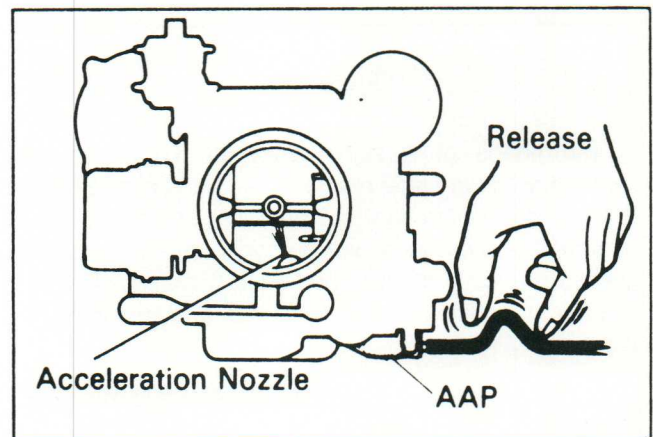

Figure 247-3
1. Check the system operation with a cold engine (Figure 247-3).